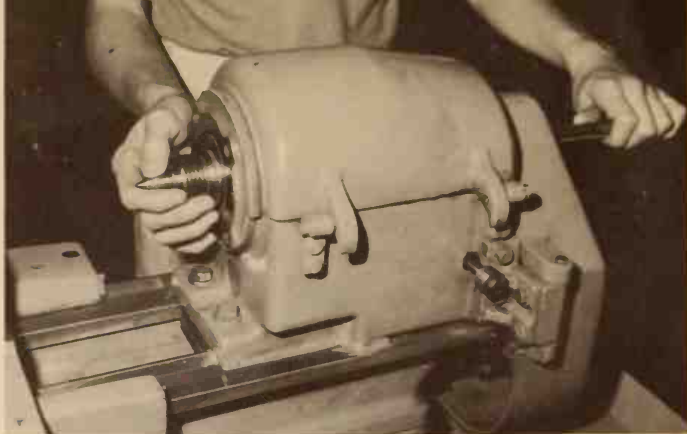

Fig. 9-15. Remove live center from headstock with a knockout rod. Hold the center so it will not fall and damage the point.
4. Remove live center and replace it with a drill chuck, Fig. 9-15. Fasten